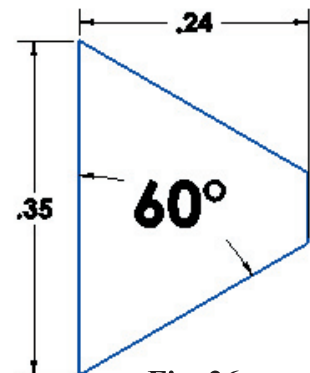

Fig. 26
Step 3. Dimension the angle **60° degrees** between the left line and bottom line as shown in **Fig. 26**. To dimension the angle, click both lines then move the cursor inside and click. Key-in **60** for the dimension and press ENTER.